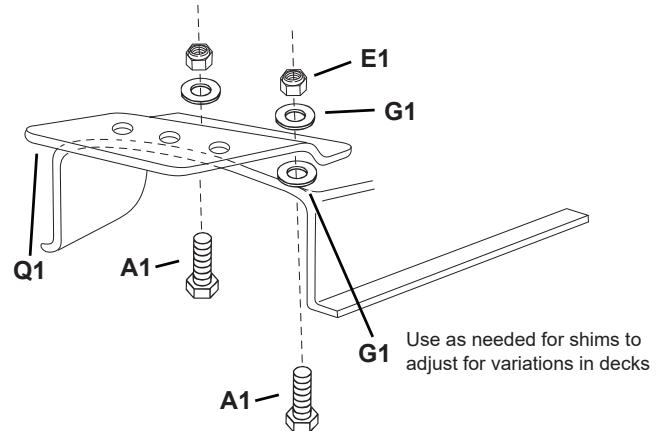

FIGURE 26
- Assemble the adapter bracket to the deck using two 5/16" x 1 1/4" hex bolts (A1), 7/8" flat washers (G1) and 5/16" nylock nuts (E1). Tighten hardware. See figure 26.
NOTE: It may be necessary to use extra 7/8" flat washers (G1) to shim under the bracket next to the deck surface. Ten extra washers have been furnished as shims. See figure 26.